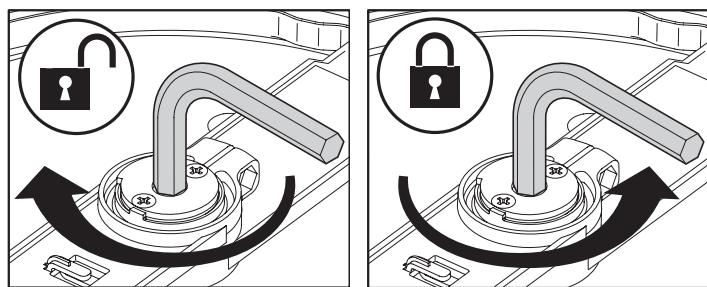

Figure 9 - MANUAL RELEASE
2. Using the MANUAL RELEASE, disengage the drive motor if this is not already accomplished (see Figure 9). Ensure that the gate moves freely by moving it manually to the fully opened and fully closed positions verifying there is no binding or cause for resistance.
3. Put gate mid-way and using the MANUAL RELEASE HANDLE, move it counter-clockwise to re-engage the drive system (see Figure 9) and then stow handle.